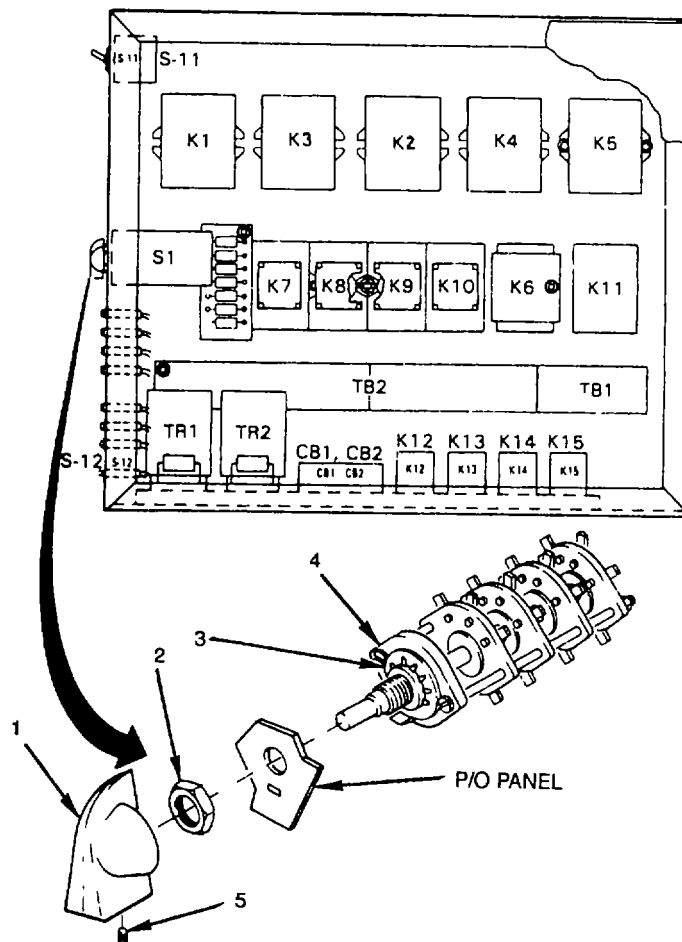

Figure 4-19. Mode Select Switch (S1)
- b. Check switch (4) for smoothness of operation Replace switch if defective (see fig. 4-19).
- c. Check switch (4) for signs of overheating or other visible damage If wires are damaged, replace as necessary
- d Check that knob (1) is not cracked or damaged